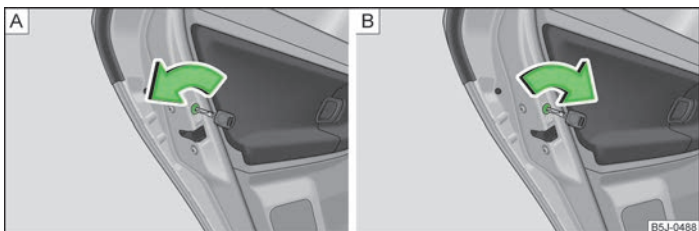

Fig. 10 Switching child safety lock on: for vehicles without or with central locking system
- On vehicles without central locking, turn the slot of the lock on the left-hand door anti-clockwise » Fig. 10 - A and clockwise on the right-hand door.
- On vehicles with central locking, turn the slot of the lock on the left-hand door clockwise » Fig. 10 - B and anti-clockwise on the right-hand door.